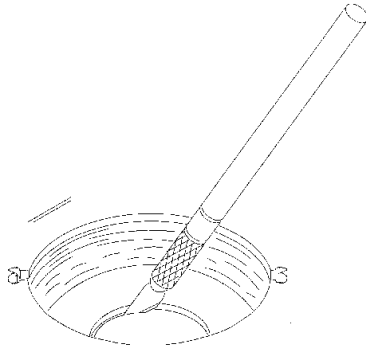

Figure 4 Inner insulation removal
- 3 Carefully remove the scribed circle of insulation from the oven top to create an opening into the oven: use a razor knife to cut out the insulation using the scribed circle as a guide. (See Figure 4.)